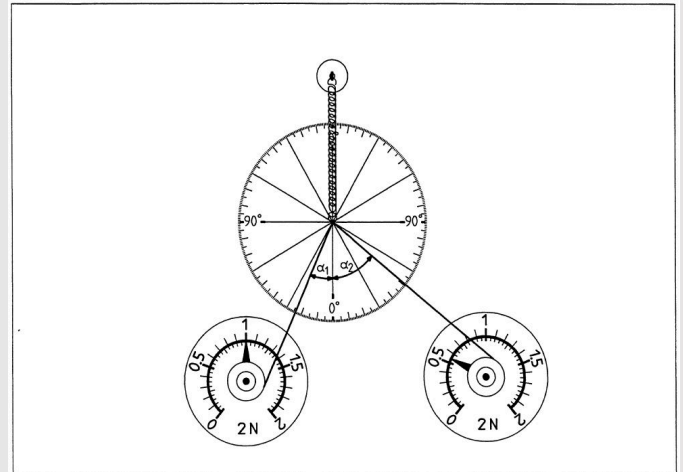

Figure 1
- Adjust both force gauges and then move them so that the coil spring is stretched, e.g. by about 7 cm Place the angle plate on the demo board so that its centre is exactly behind the lower end of the coil spring (Fig. 1).